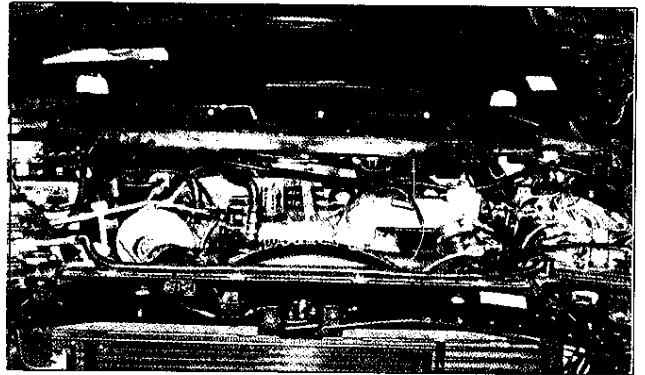

Fig. 14
- a. Route the harness along the top of the engine compartment plenum. Refer to Fig. 14 for the general placement of the harness. The harness should be oriented so that the end with the single green wire with the ring terminal is located at the passenger side of the engine compartment, and the end with the yellow, green and red wires is located on the driver's side of the engine compartment.